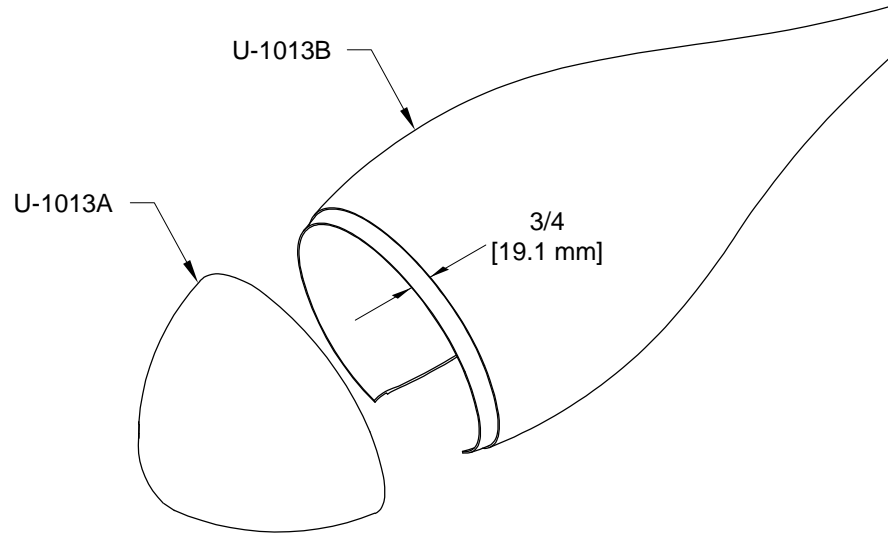

FIGURE 1: FITTING FAIRING HALVES
Step 1: Fit the U-1013A Wheel Fairing Front and U-1013B Wheel Fairing Rear together. The wheel fairing rear has a recessed lip so the smaller wheel fairing front will fit flush. This lip may be uneven. Trim it to a constant width as shown in Figure 1.